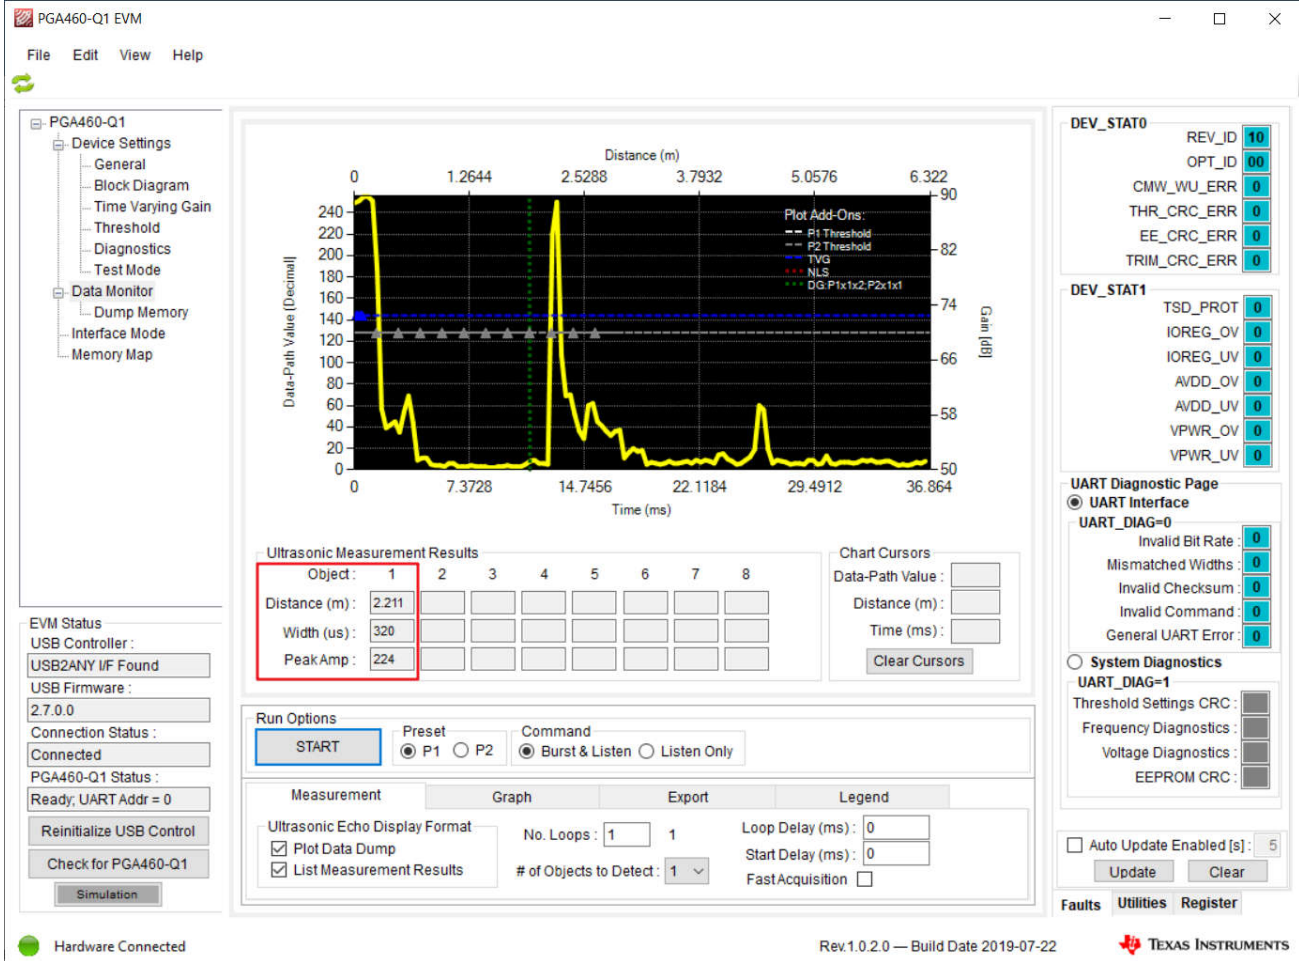

Figure 4-2. PGA460-Q1 GUI Detection Results
- For customized transducer, you need to make parameter adjustments and check the detection results, as shown in Figure 4-2.